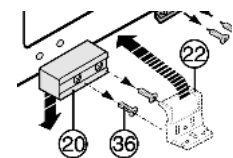

Fig. 28
- ▶ Detach the Fig. 28 (20) transit support.